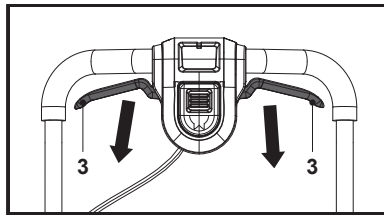

Fig. 18
Release the start levers (3) to stop motor and cutting blade (22) (Fig. 18).